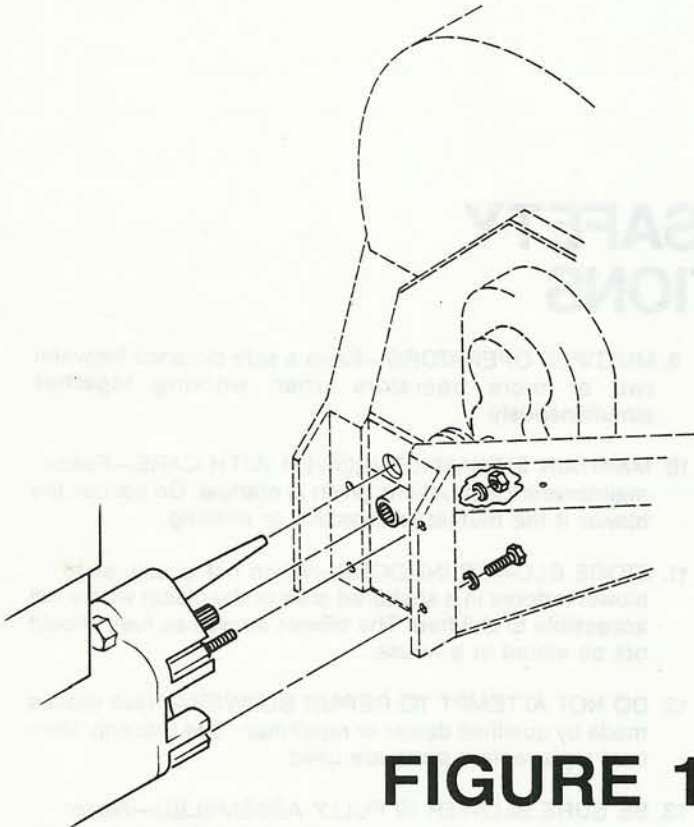

FIGURE 1
2. Attach the blower to the tractor. Align the splined end of the flex coupler on the gear box with the tractor PTO shaft. Slide the blower onto the front of the tractor. As shown in FIG. 1.
3. Secure the blower to the tractor using (2) 1/2—13 hex nuts and lockwashers and (2) 1/2—13 x 1 1/4 hex hd. capscrews and lockwashers. Tighten the nuts and capscrews securely. As shown in FIG. 1.